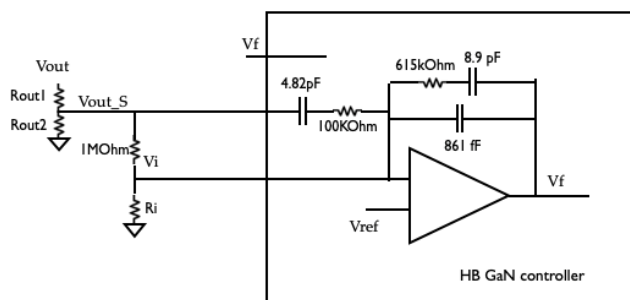

Figure 2: Configuring the output voltage.
**Vi (Pin 11):** Input voltage of the Error Amplifier. The compensation network is integrated on-chip and ensures a bandwidth of about 100kHz, but the DC regulation voltage Vout is selected by the addition of 2 voltage dividers between Vout and ground, as shown in Figure 2. The two voltage dividers are necessary because the ESD protections connected to the feedback nodes are rated at 3.3V maximum. A first voltage divider (composed by Rout1 and Rout2) will scale down the Vout voltage to a “scaled” voltage Vout\_S in a range between 1.5V and 3.3V. Vi is connected at the second voltage divider and the resulting voltage is compared to the internal reference voltage (about 0.58V). The resistor between Vout\_S and Vi must have a value of 1MΩ, while the one between Vi and ground is selectable (including not populating it, therefore Vout\_S=Vref=0.58V). Rout1 and Rout2 must be lower than 50Kohm in value to avoid issues in the compensation network. To set Vout=12V the following resistor values are recommended: Rout1=11KOhm, Rout2=3.3KOhm, Ri=262KOhm. If Vout is below 3.3V the voltage divider Rout1/Rout2 is not required.